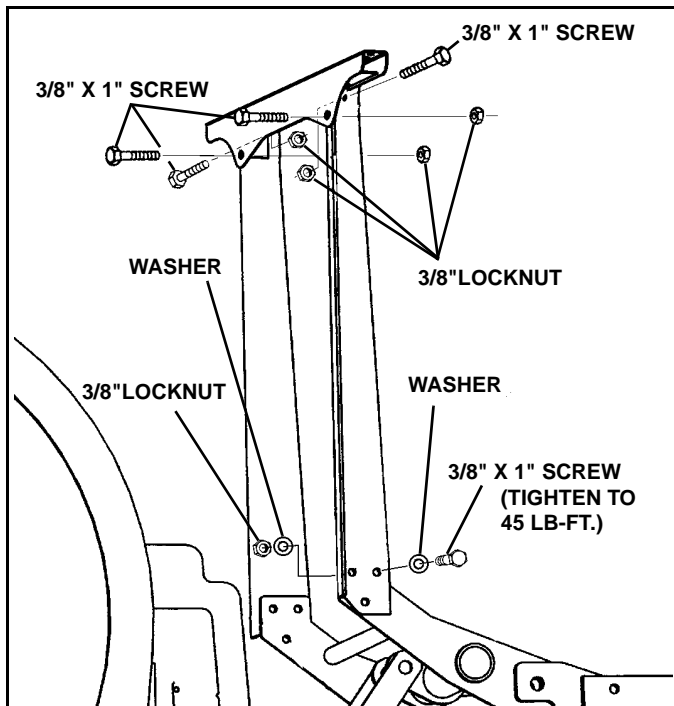

Figure 1-10
20. Remove Left and Right light support from light bar package. Secure each light bar support to lift/light bar with (3) 3/8" x 1" screws, washers and lock nuts from the light bar parts bag part number 96106089. Do not tighten at this time. (See Figure 1-10).